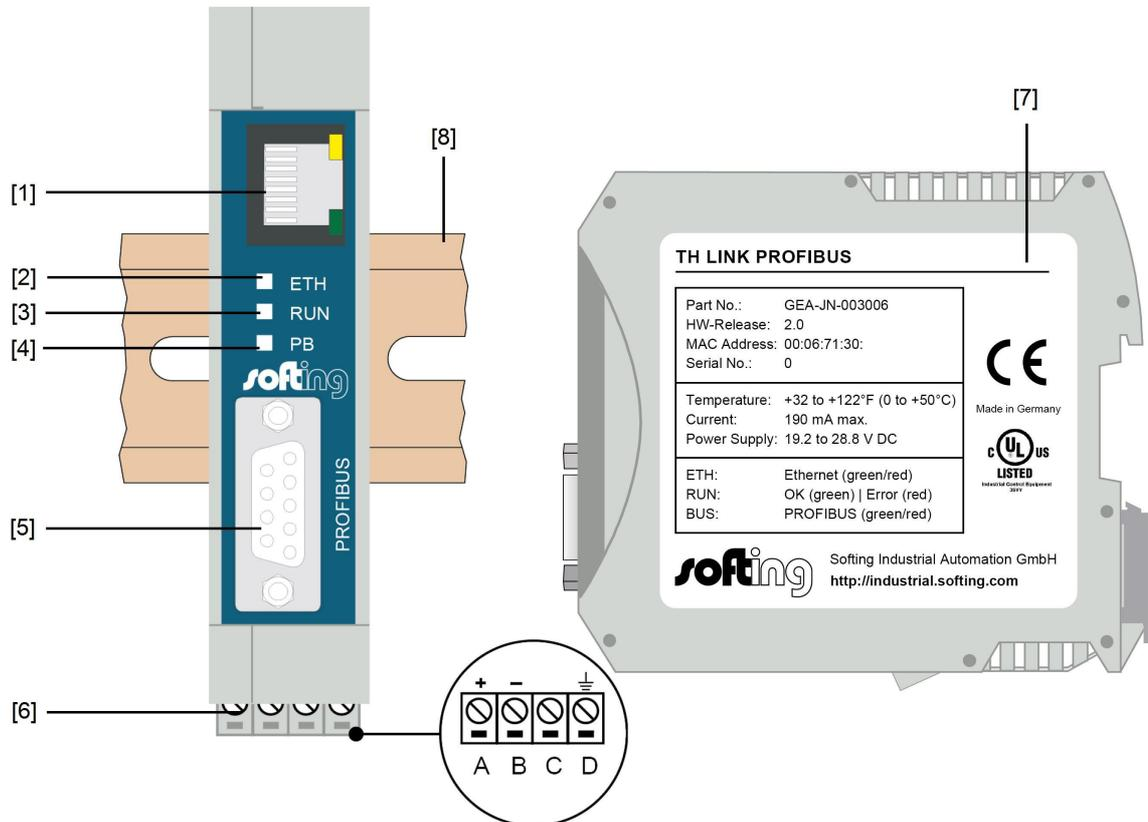

Figure 1: TH LINK (front and lateral view)
1. Insert the patch cable plug (RJ-45, not included in the scope of delivery) into the Ethernet socket (see figure 1 no. [1]) on the TH LINK until the plug locks into place.